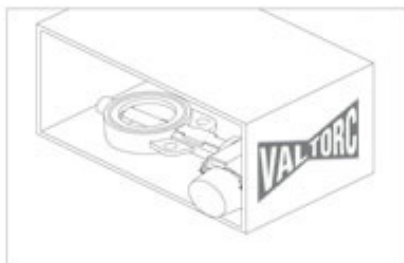

Fig 2.1 Storing the Valve.
4.1 Valves are being packed in cartons, boxes or pallets while shipping to the customer. Care should be taken to store them in a suitable place. We recommend storing the valves indoors in a dry and dust free atmosphere (Refer to figure 2.1). While unpacking the valves, check that the valves and any other accessories have not been damaged during transportation.